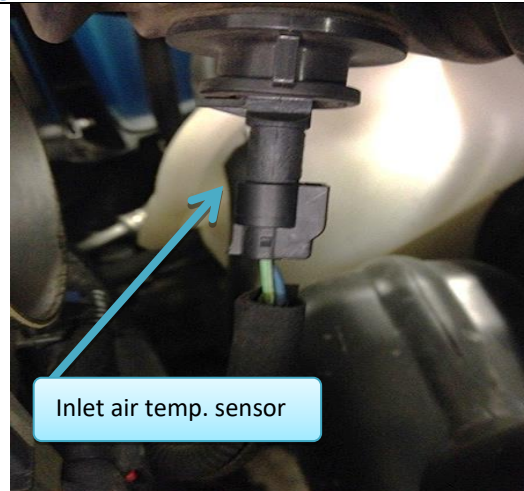

Figure 2: Inlet air temperature sensor on intake tube driver side below throttle body.
- 2.4. Carefully remove Inlet air temperature connector on intake tube (Figure 2)